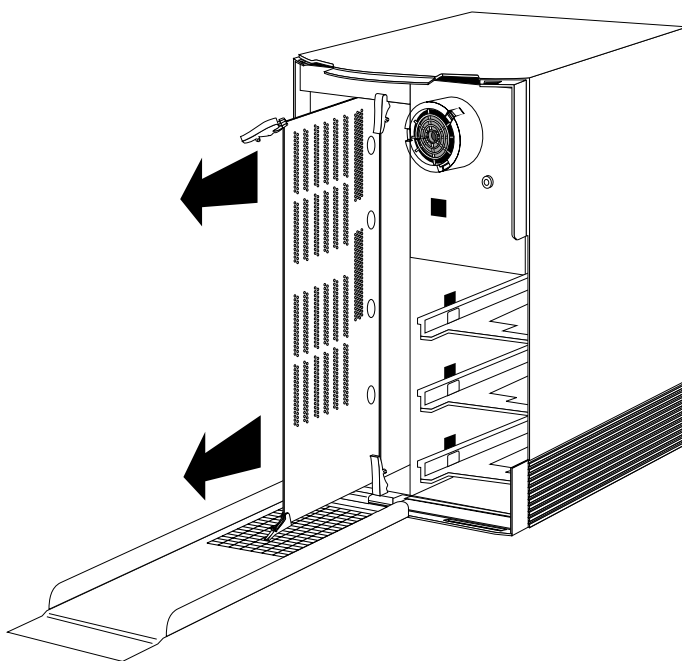

Figure 3-4 Removing the CPU Board From the Indigo Chassis
- Pull the levers toward you to release the board. The board slides out of the chassis as you pull the levers, as shown in Figure 3-4.